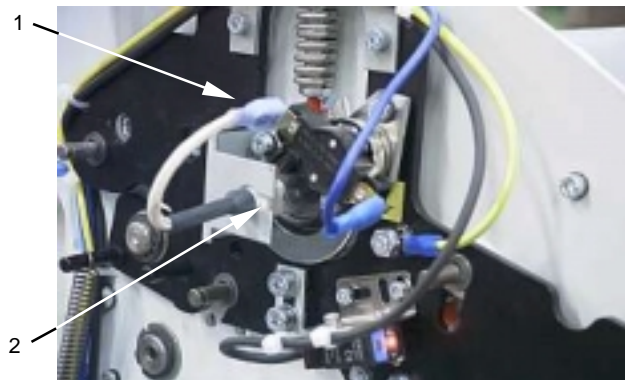

fig. 10
1. See figure 10. Remove, on the left-hand side of the machine, the blue fast-on conector 1 from the overtemperature switch.